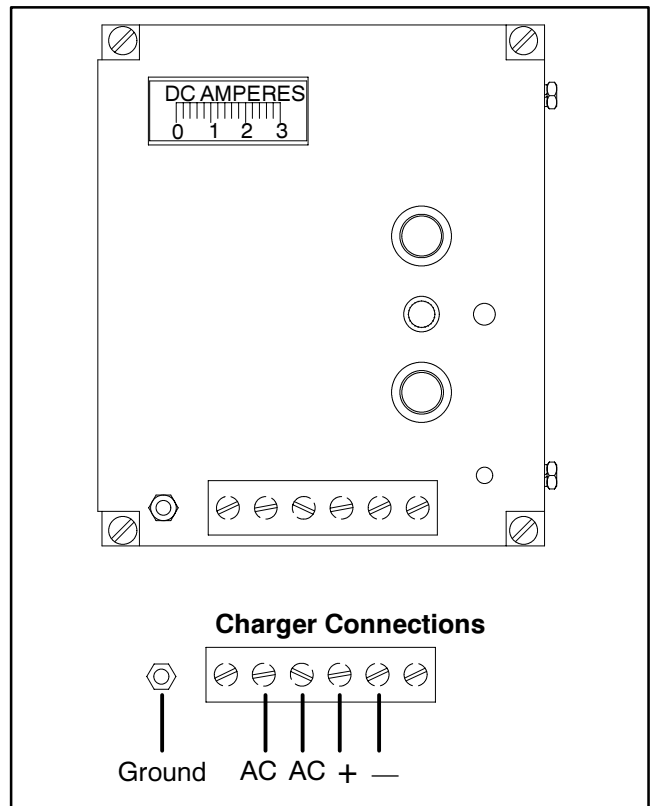

Figure 7-4. Battery Charger User Connections
3. A battery may be charged without disconnecting it from the generator or disturbing the cables connected at the battery posts by making the connections as listed. See Figure 7-4.